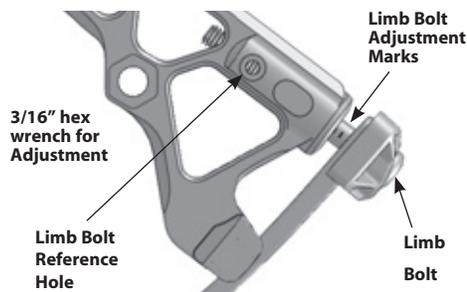

Figure 2. Draw Weight Adjustment
Every bow configuration as seen in **Table 1** has a slightly different result so therefore please consult your maximum and minimum draw weights available for each. This new feature is also a useful tool in keeping the limb bolts equal on both the top and bottom of your bow when you are adjusting draw weight. As a safety precaution, the limb bolts should never be backed out beyond the limb bolt reference hole on the riser while the bow is being shot. **Please reference Figure 2.**
1. Before adjusting limb bolts, note setting on limb bolt adjustment marks for future reference. (**See Figure 2**).